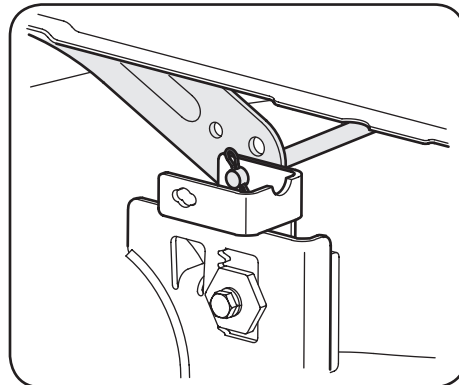

Figure 4-9
5. Looking at the cutting deck from the left side of the tractor, locate the bow-tie pin that secures the deck support rod on the rear left side of the deck. See Figure 4-9. Remove the bow-tie pin that secures the deck support rod, and carefully remove the deck support from the deck lift arm.